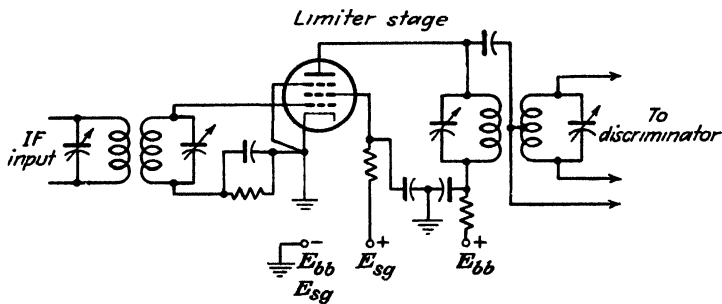

FIG. 4-28.
**Ans.** Figure 4-28 shows a typical limiter stage used in frequency-modulation receivers.